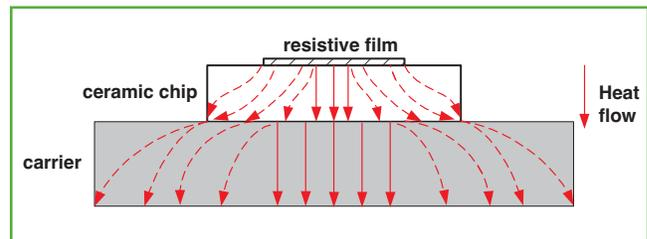
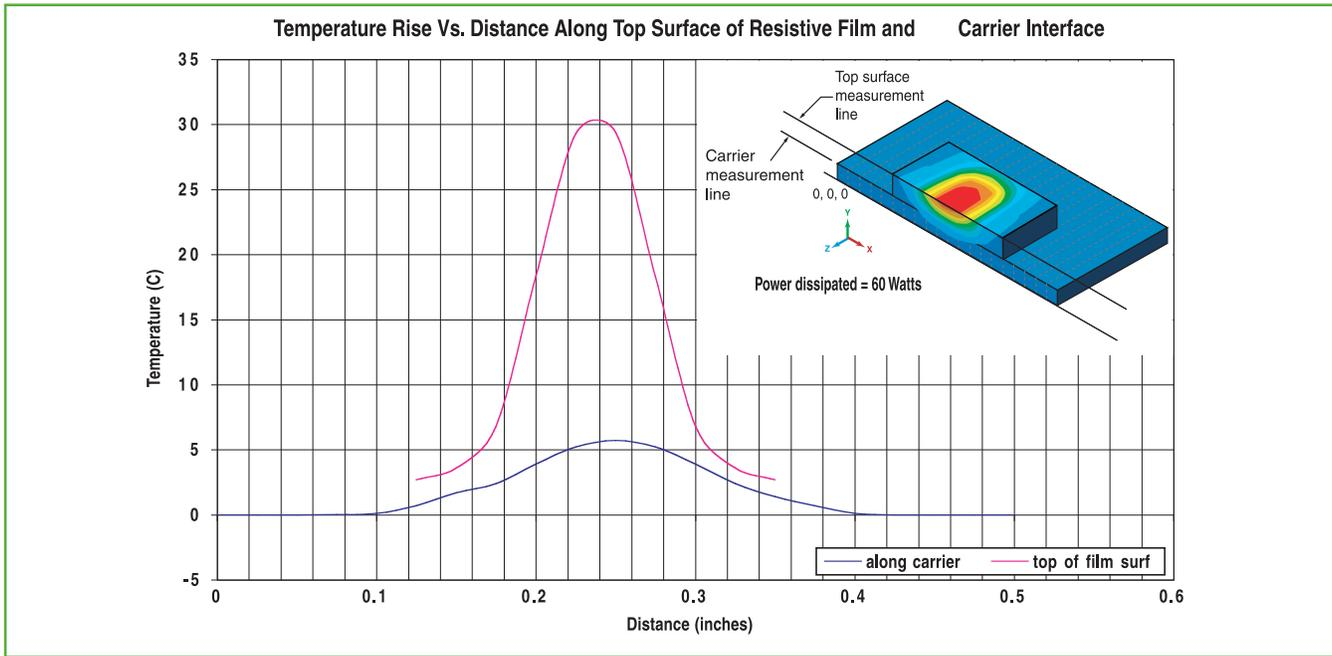
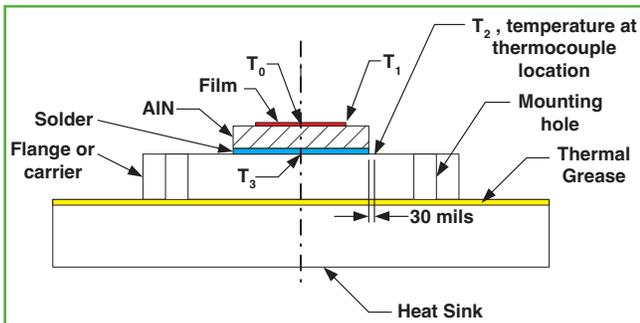

Figure 10. Heat flow around a mounted chip resistor
Figure 11: Computer simulation of isotherms around mounted chip resistor
Figure 12: Temperatures at a number of points on and around a groundplane-mounted resistive chip
Before we can do a thermal design, we must first decide on exactly what we shall mean by "power rating" for a chip device. **Figure 10** illustrates the heat flow around a mounted chip resistor. The resistive film, assumed to have constant power dissipation over its surface, behaves as an isoflux boundary, i.e., a source of uniform heat flux, rather than the isothermal boundary used in the derivation of equation (2). Were the film to completely cover the chip, the isoflux case would approach the isothermal case, but absent that condition the heat spreads out as shown.
The thermal resistance between two points is defined as the temperature difference between those points divided by the heat flow (typical units are degrees Centigrade/Watt). It is analogous to electrical resistance, with temperature corresponding to voltage and heat flux to current. **Figure 10** indicates that there is vertical as well as lateral heat flow in both the ceramic chip and the carrier it is mounted on. This implies that the system must be represented as a lattice network of thermal resistances rather than a single
thermal resistance. (The latter can characterize only the kind of one-dimensional heat flow assumed for equation (2)) **Stated alternately, the temperature will vary laterally along the film and, also, laterally along the mounting surface.** This is illustrated in **Figure 11**, which was made using a "Finite Element Method" (FEM) computer simulation. In actuality, a three-dimensional latticework of resistors is needed to describe a mounted resistive chip, and there is temperature variation along all three dimensions.
The above considerations bear importantly on how a chip is designed and characterized for power handling and exactly how confirming measurements are made. **Figure 12** indicates temperatures at a number of points on and around a mounted chip: (a) T_0 , at the film centroid; (b) T_1 , at the film edge or corner; (c) T_3 , on the mounting surface directly under the film centroid; and (d) T_2 , on the mounting surface 30 mils away from the chip edge. We can make the following qualitative observations:
An ideal heat sink has infinite thermal conductivity and, because of this, the infinite thermal conductivity, T_2 would equal T_3 in Fig. 12. From Fig. 10 and Fig. 11, this clearly is not the case for any real mounting surface; in fact, $T_3 > T_2$.
One strategy for defining power rating might be to measure T_3 directly – or deduce it from a measurement of T_2 and a computer FEM model – and then specify performance as if an ideal heat sink were held everywhere at that temperature. By slicing a mounted resistor in half along its longitudinal axis – in Figure 12, perpendicular to the plane of the paper, down the centerline – we were able to take advantage of the lateral heat-flow symmetry to measure T_2 and T_3 for chips of several sizes and input powers. (The slice plane is an adiabatic boundary, i.e., no heat flows across it.) Results of such measurements are presented in **Table 2**. All chips were 40 mils thick and all measurements were made on a silver-plated high-conductivity copper mounting surface (see the table for more information).
- Next, since our carrier does not have infinite thermal conductivity, we must specify the **exact location – T_2 in Figure 12 – at which we hold the ambient temperature constant. Typically, we choose this as 30 mils from the chip edge along its lateral centerline** – an arbitrary, convenient spot at which to solder a small thermocouple.
In order of increasing accuracy (and decreasing convenience), film temperatures can be estimated by: equation (2) herein (no spreading); any one of several formulas available in the literature that include spreading; or an FEM computer program. The term "constriction resistance" is used to describe that component of thermal resistance over and above what would be produced by purely one-dimensional heat flow. Let us assume a perfectly conducting mounting surface in Figure 10, i.e., a surface along which there can be no lateral temperature variation. Then to calculate the total thermal resistance from the film to the mounting surface, one would compute the one-dimensional resistance of the chip with the film occupying its entire surface and then add the constriction resistance to account for the lateral constriction of the heat-flow. (Note, from the top down the heat spreads and so the term "spreading resistance" is frequently used, but from the bottom up the heat flow constricts.) There are several expressions available in the literature for the constriction resistance of heat sources mounted on rectangular channels ("flux tubes") with adiabatic walls, i.e., heat-producing films on chips that have no appreciable heat conduction perpendicular to their sidewalls. One formula that yields constriction resistance based on an average film temperature is⁵.